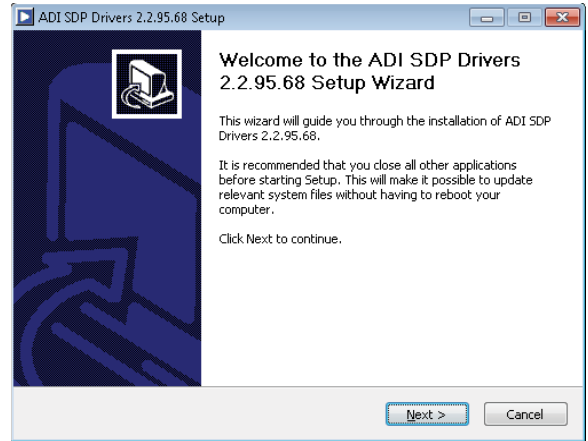

Figure 10. ADI SDP Drivers Setup Wizard
- The ADI SDP drivers Setup Wizard opens. Click **Next>>** to install the ADI SDP drivers (see Figure 10).